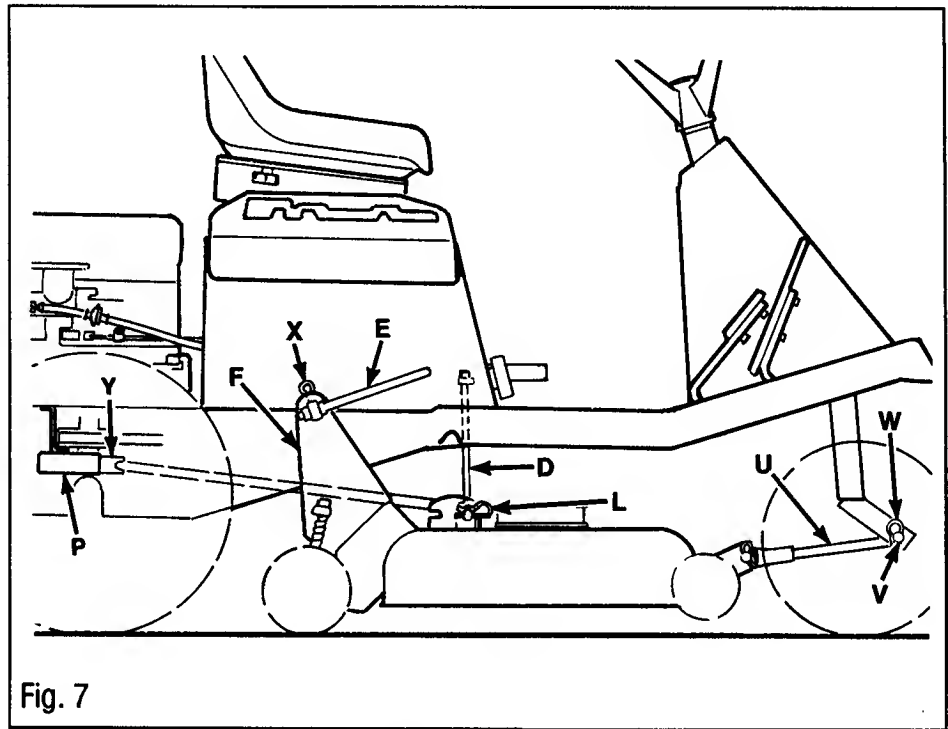
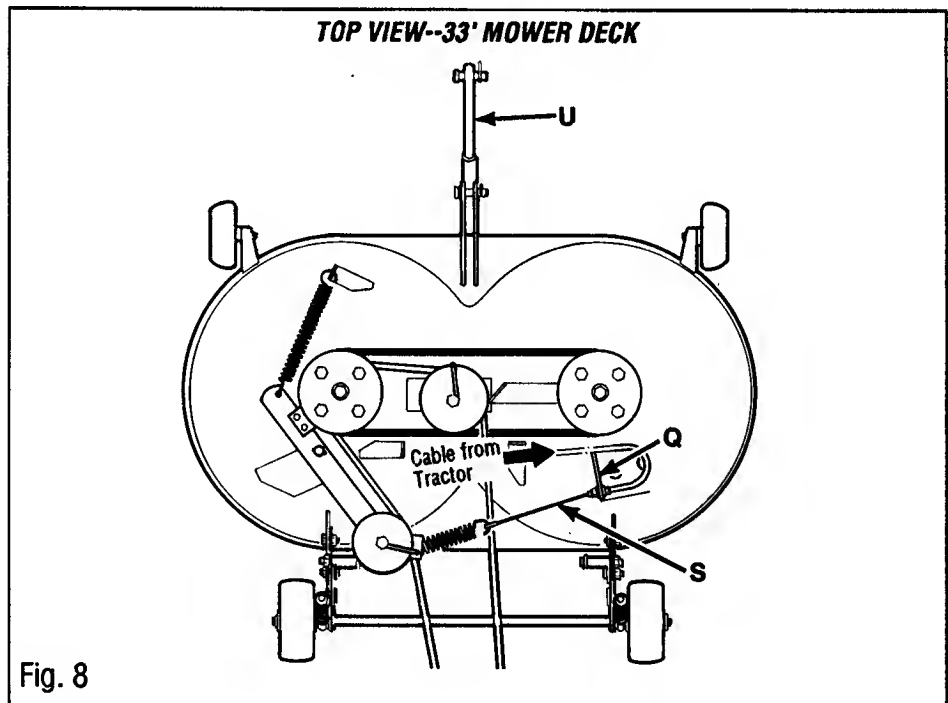

Fig. 7
Fig. 8
2. Connect lift rods (D, Fig. 7) to mower decks and secure with spring pins (L).
3. Connect pivot rods (E, Fig. 7) to lift plates (F) on mower deck. Secure with spring pins (X).
5. Remove belt guide (P, Fig. 7).
6. Route mower drive belt over sheave (Y). It may be necessary to rotate differential to assemble belt.
7. Re-install belt guide (P) as far to the front as possible. Re-tighten belt guide. Check clearance between guide (P) and bolt head on differential. A 1/8" minimum gap should exist.
8. Install mower blade drive cable (S, Figs. 8, 9 & 10) from tractor, onto cable support (Q), as shown in Figs. 8, 9 & 10.